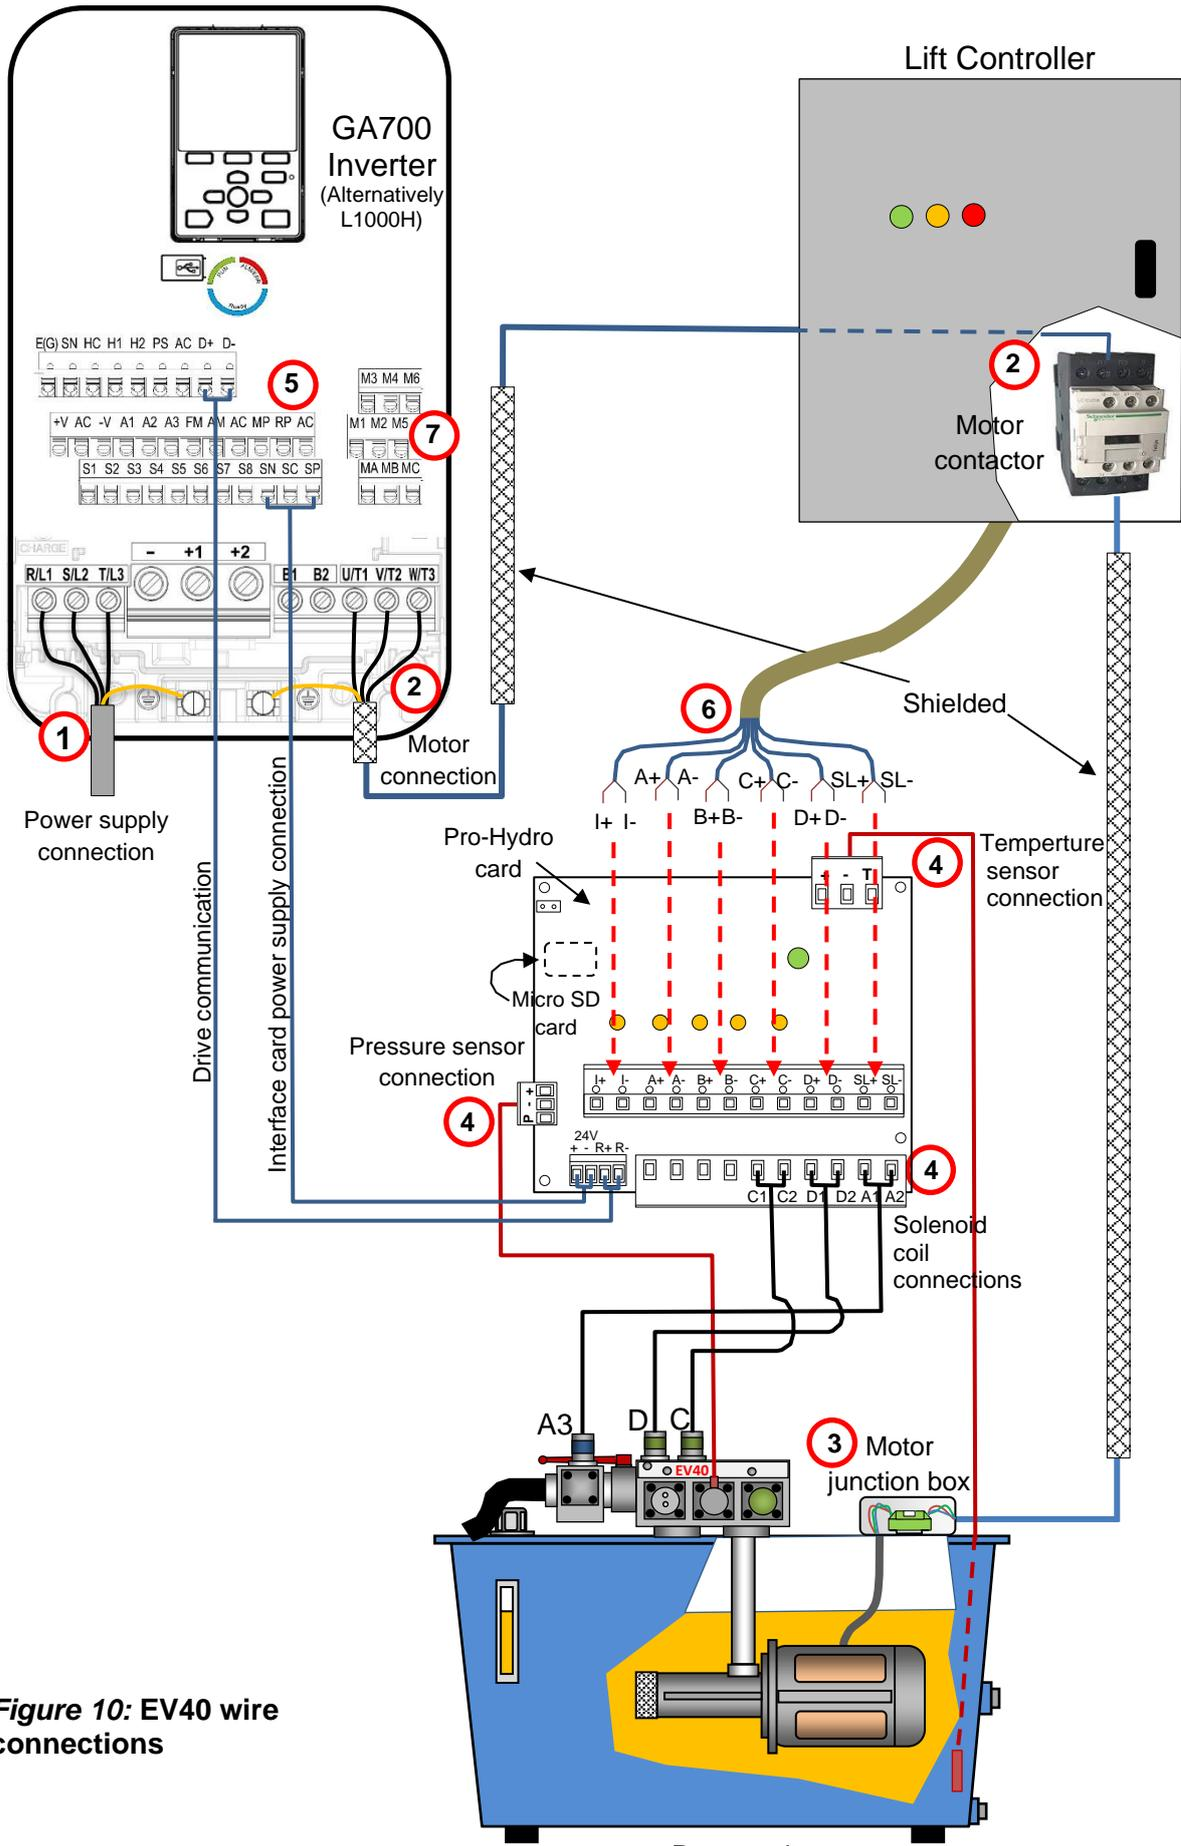

Figure 10: EV40 wire connections
3.3 PRO-HYDRO INSTALLATION STEPS (SEE FIGURE 10)
- 6) Perform **Pro-Hydro** connection to the lift controller: Signaling coil connections (I, A, B, C, D, SL) are done as shown in Figure 10 - see Section 3.3.6.